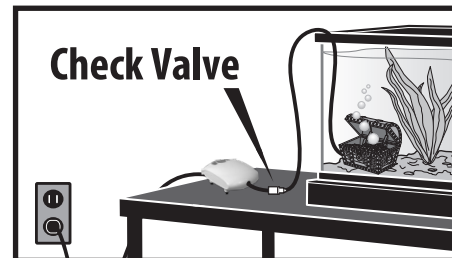

FIG. 3
3. It is recommended to use a check valve between the pump and the aquarium. It prevents water from siphoning into the air-pump in case of an electrical power failure or when removing filters or aerated ornaments from the aquarium (see FIG. 3). Check Valves are available at your local dealer: Penn-Plax Part # CV1.